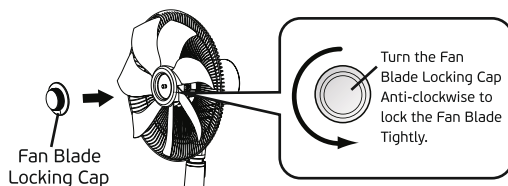

Fig. 10
- Lock the Fan Blade with the Fan Blade Locking Cap by turning it Anti-Clockwise until it locks the Fan Blades tightly. (Fig 10)